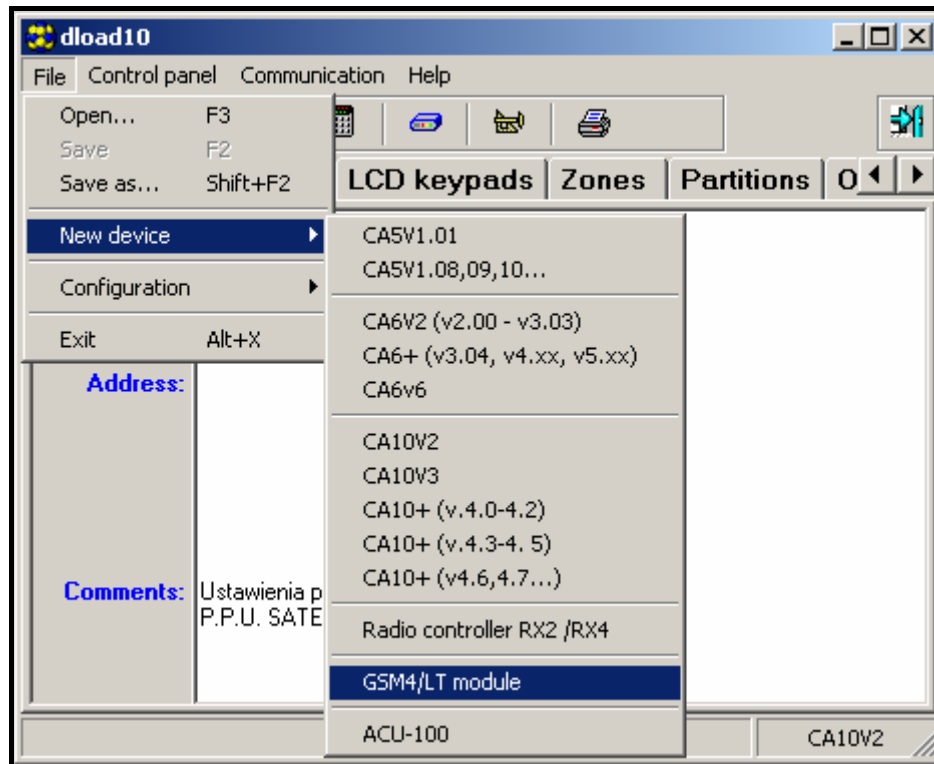

Figure 7.
1. Open the window with module data by selecting **File**→**New device**→**GSM4/LT module** in the program menu (see: *Fig. 7*).